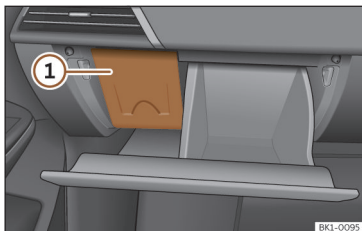

Fig. 170 Right-hand drive vehicles: fuse box cover under the passenger side dash panel.
- Remove the cover from above >>> **Fig. 170 ①**.